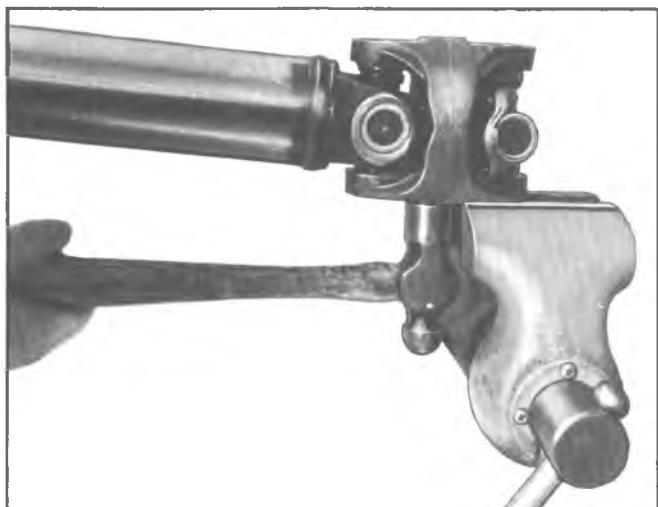

Fig. 31—Bearing Cup Removal
4. Once the bearing cup protrudes $3/8''$, release vice. Grasp protruding portion of cup in vice and strike center yoke as shown in Figure 31 until cup is removed. Remove cup seal by prying off with a thin screwdriver.